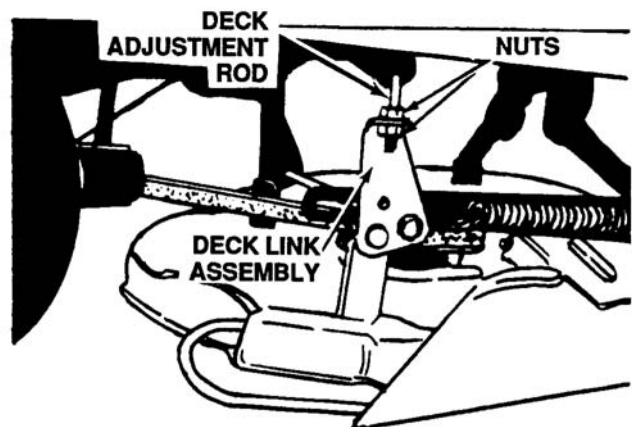

Figure 12-16. Deck Side-To-Side Leveling Adjustment
- If an uneven cut is obtained, the deck may be leveled. A deck adjustment rod is located on the right side of the unit. See Figure 12-16.